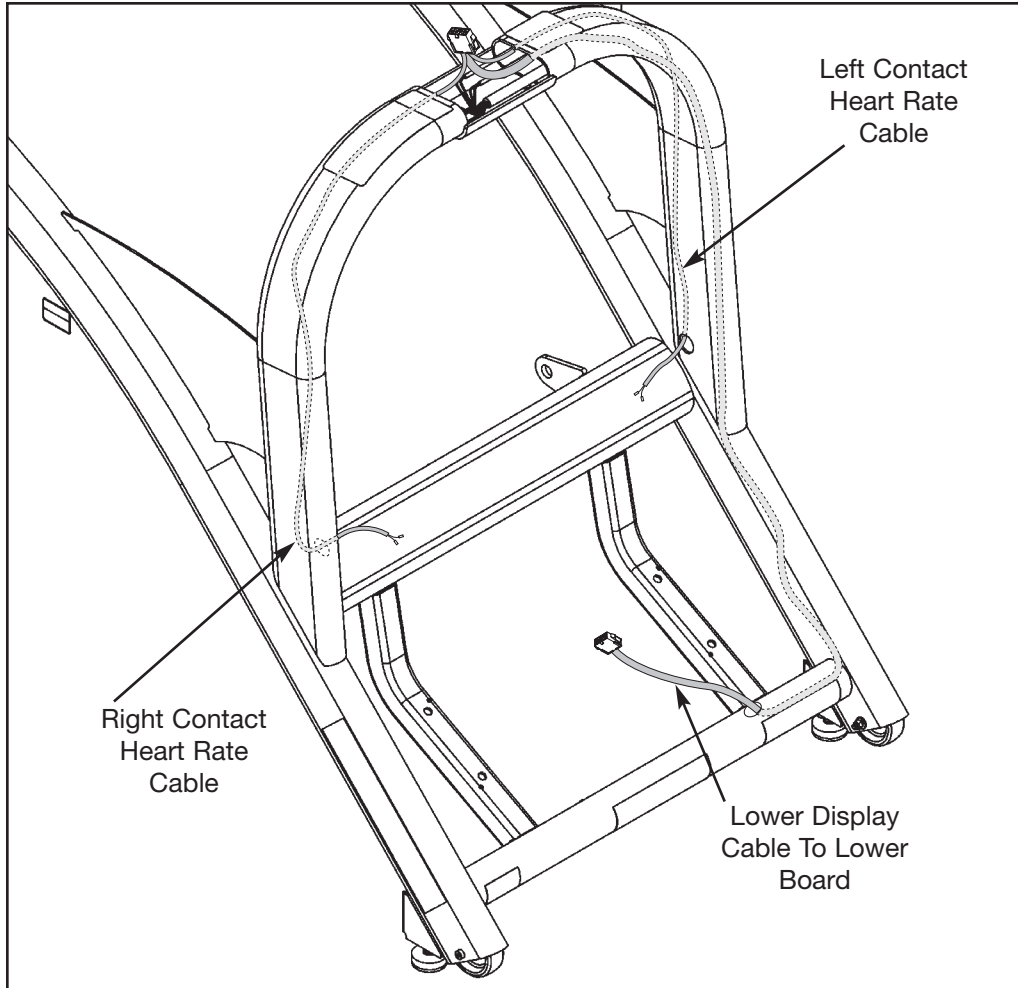

Figure 34 **NOTE:** Frame only shown for cable routing.
- G.** Gently pull all three cables through the frame tubes. See Figure 34. **NOTE:** Stop pulling when the new cables exit the frame tubes.